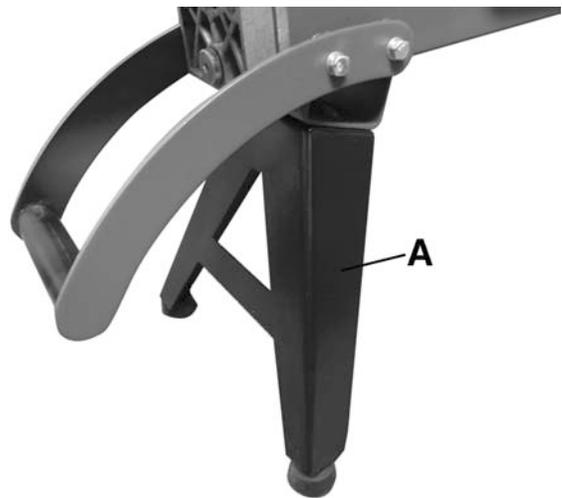

FIGURE 5
Assemble the supporting leg (A) Fig.5 on the machine body as shown using two washers, spring washers and hex. bolts.